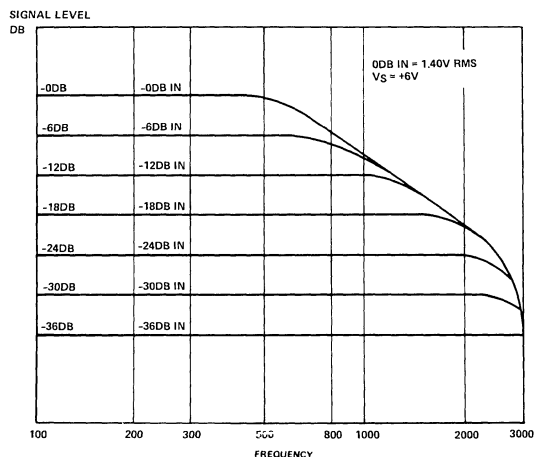

Figure 1 — Transfer Function for CVSD at 16KB
13. For large signal amplitudes or high frequencies, the encoder may become slope-overloaded. Figure 1 shows the frequency response at various signal levels, measured with a 3KHz low-pass filter having a 130dB/octave roll-off to -50dB. See Table II.